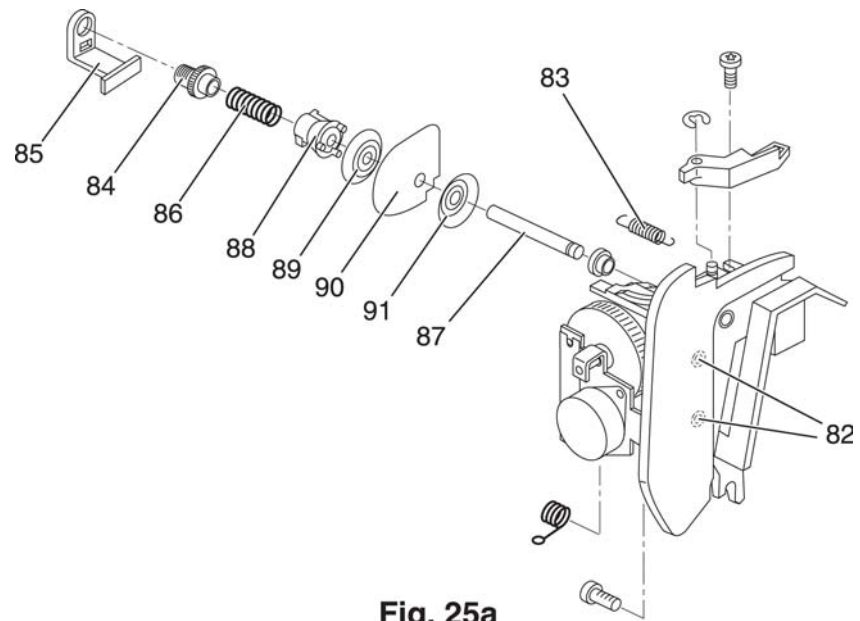

Fig. 25a
- Unscrew the two screws 82 and remove the stepping motor completely (fig. 25a).